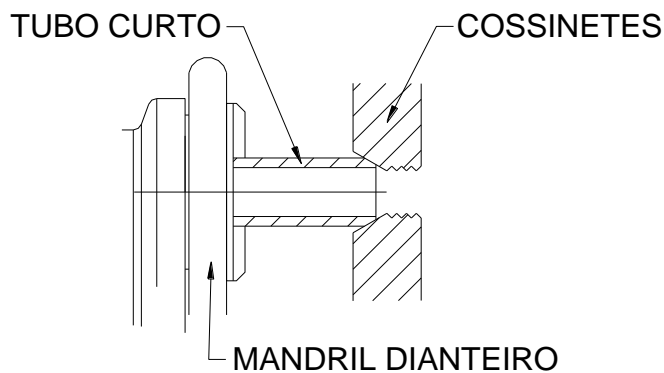

FIG 2
- (1) Open both chucks and place pipe beginning from back chuck.
- (2) Close the back chuck, pressing the clamps against the pipe. Close front chuck: with the hands on the wheel, pull it towards your body to lock pipe.
- (3) A sudden movement in the opposite direction will release the pipe after cutting.
- (4) Using short pipes that do not reach the back chuck, with the front chuck lightly loose, place the short pipe and tighten it, using the front edge of the dies. This procedure should help to keep pipe centered while front chuck is fastened (FIG 2).